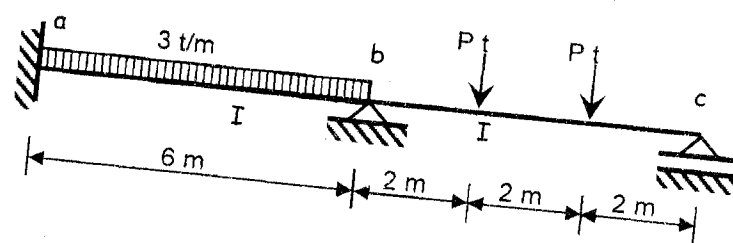

figure 3
- iii) Figure 3 shows structural plan of a roof panel ABCD with cantilever slabs at corners A and C. The cantilever slabs at C are dropped 0.1m. The roof is supported on projected beams AB, BC, CD and DA of cross-section $0.25 \times 0.8\text{m}$ and on four columns A, B, C and D. The roof is subjected to live load = 5kN/m^2 and flooring cover = 2kN/m^2 . It is required to carry out the following:
Using the slope deflection method, find the value of force P such that the maximum negative moment at 'b' equals the maximum positive moment at 'c', further draw the B.M.D. and S.F.D for the beam in figure 3. EI = constant